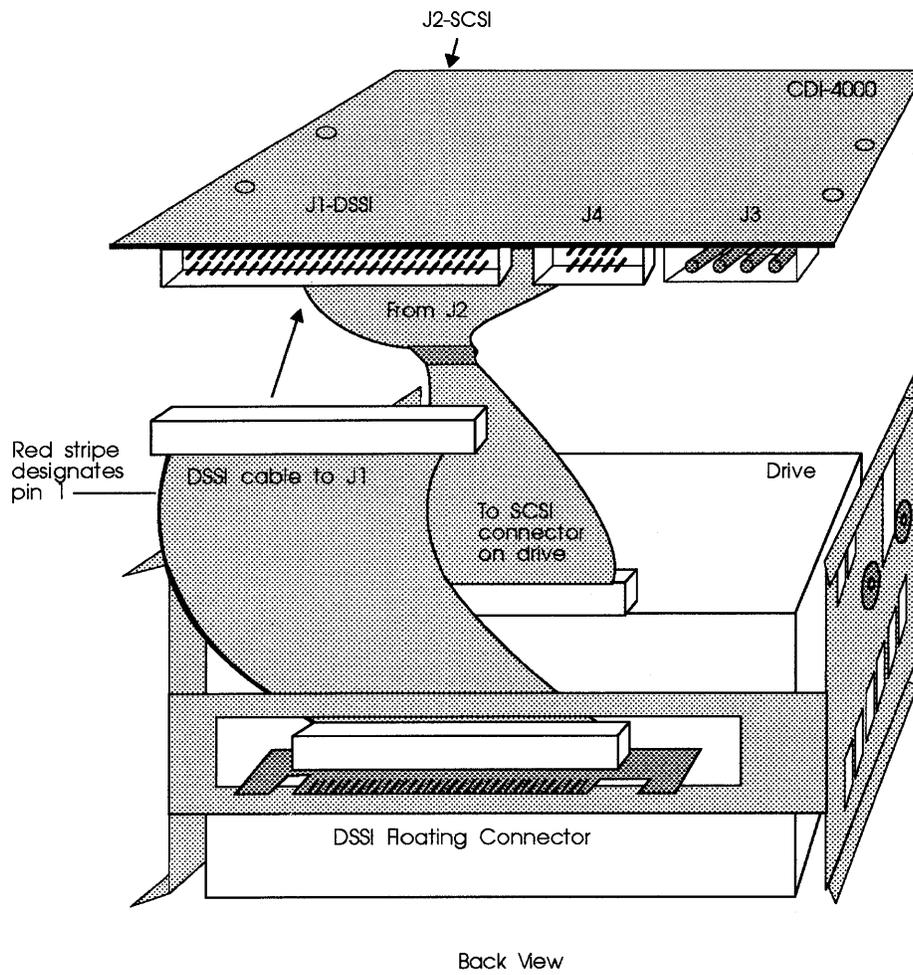

Figure 4-13: CDI-4000-SA1 DSSI and SCSI cabling
- 3 Connect the DSSI cable (50-pin cable, 2-inch long) from the floating connector to J1 of the CDI-4000. See Figure 4-13.